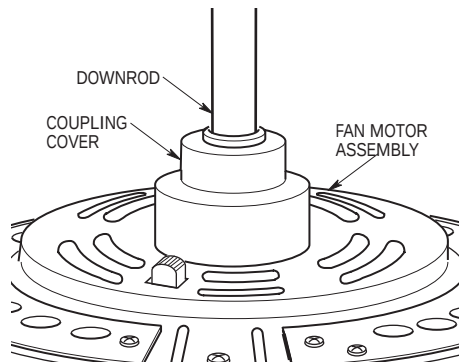

Figure 11
- **13.** Slide the coupler cover on the downrod until it rests on the fan motor assembly (Figure 11).